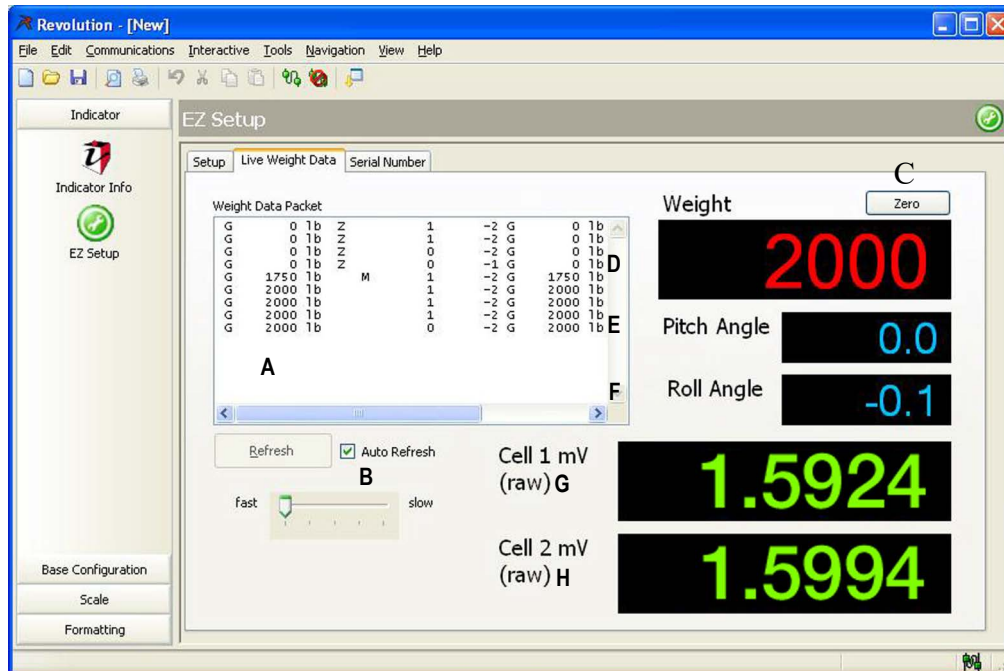

Figure 4-50. Revolution Live Weight Data screen.
13. Select the **Live Weight Data** tab (Figure 4-50).
NOTE: Weight data packet screen shows output format of CLS-M. Other displays include weight, pitch angle, roll angle, cell 1 & 2 mV. (Figure 4-50). This is the information that will be sent to the customer supplied handheld device when attached through WPAN.